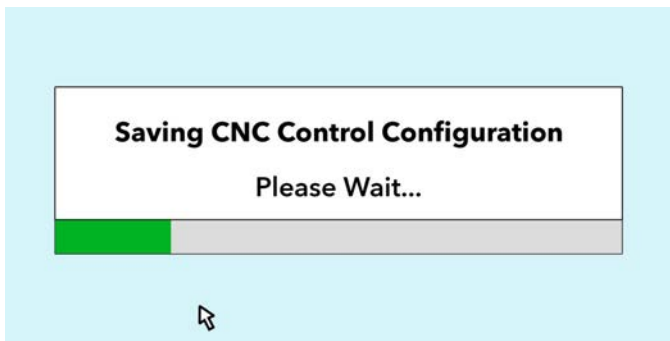

FIGURE 17
12. Saving CNC Control Configurations (see Figure 17).